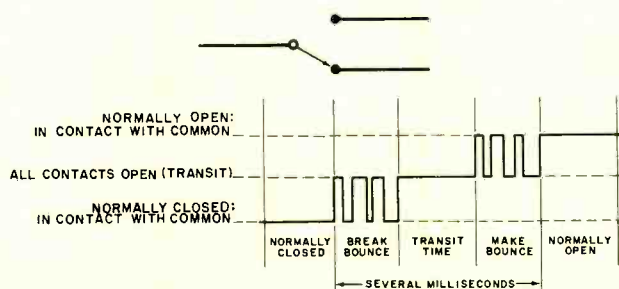

Fig. 1. During the few milliseconds it takes a switch to operate, erroneous pulses can confuse digital logic.
**Contact Bounce in Spdt Switches.** A single-pole, double-throw (form-C) switch and an idealized timing diagram of its action during transfer from normally closed to normally open are shown in Fig. 1. Initially, the movable arm (operating strap) is in contact with the normally closed contact. As transfer begins, the arm moves away from the normally closed side, opening the contact. The